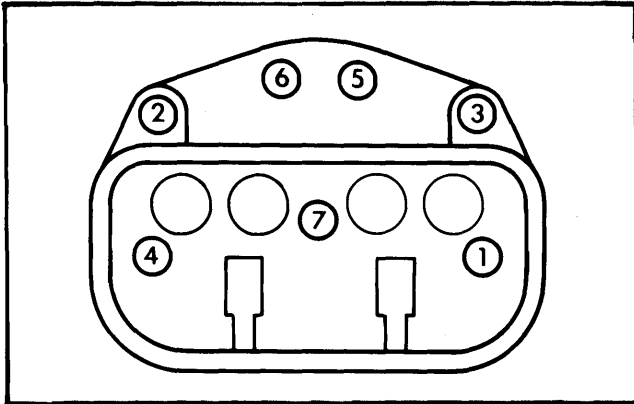

Fig. 1 Cylinder Head Loosening Sequence
5) Remove spark plugs. Remove valve cover. Loosen valve rocker nuts and remove rocker arm with push rods. Loosen cylinder head nuts in sequence (See Fig. 1). Remove cylinder head and gasket. Use an Allen wrench and remove crankcase plug. Remove cylinder liners with puller 899704100 (or equivalent).